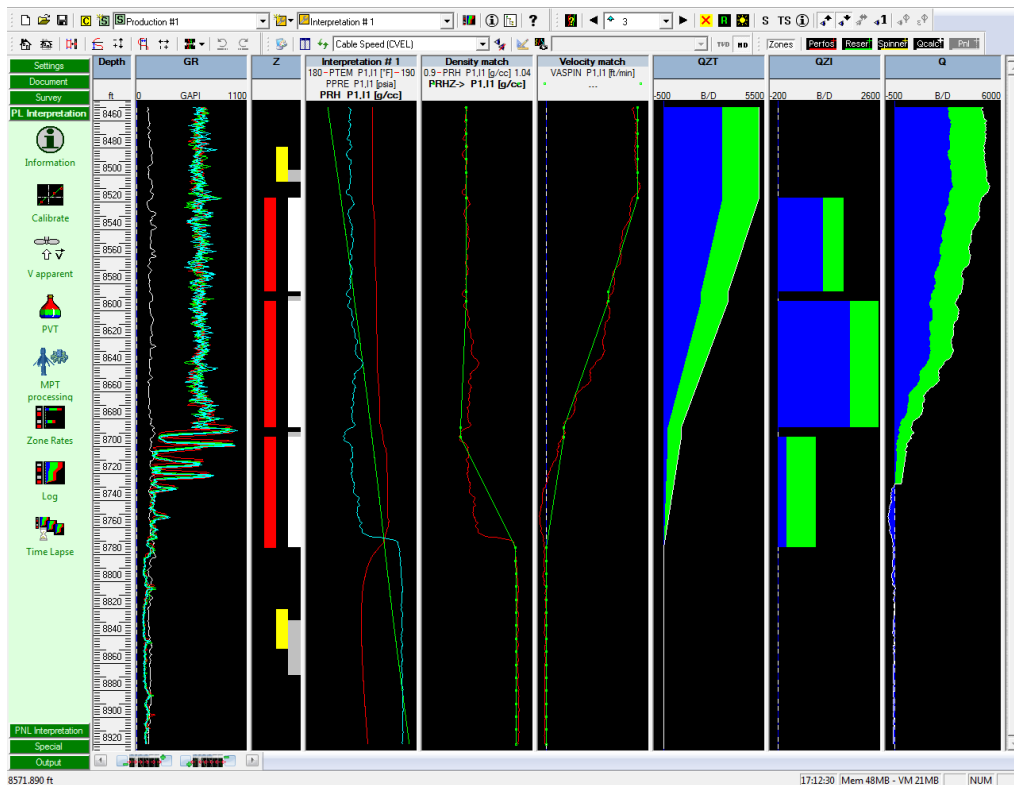

Fig. B02.28 • Logs generated
- Validate with OK and generate the schematic and complete logs for this interpretation, Fig. B02.28. You can hide the user view where the densities were compared.